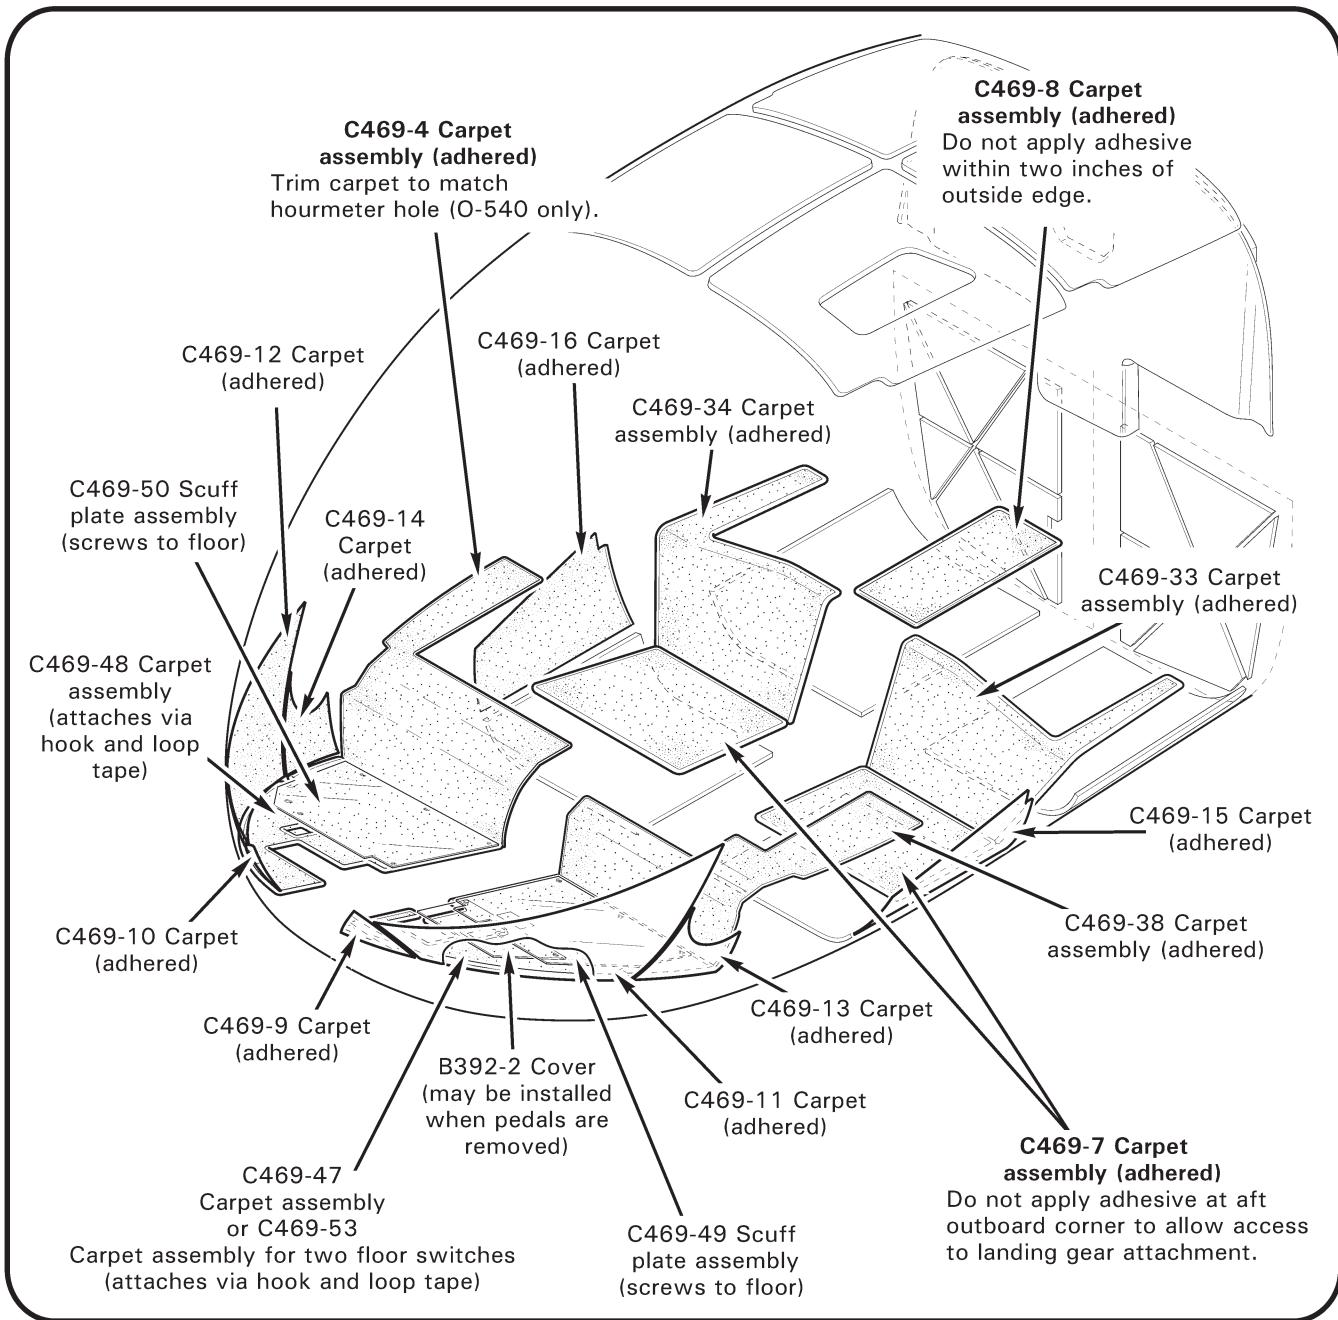

FIGURE 15-2 CARPET
1. Refer to Figure 15-2 (observe notes for specific parts). Remove adjustable and/ or removable pedals, as required. If installed, remove hardware securing B392-2 cover to cabin floor and remove cover.
1. Refer to Figure 15-2 (observe notes for specific parts). Starting at corners, gently peel back carpet by hand, or with a plastic wedge or putty knife. Dampen old adhesive with Dupont Prep-Sol (or equivalent) to facilitate removal.